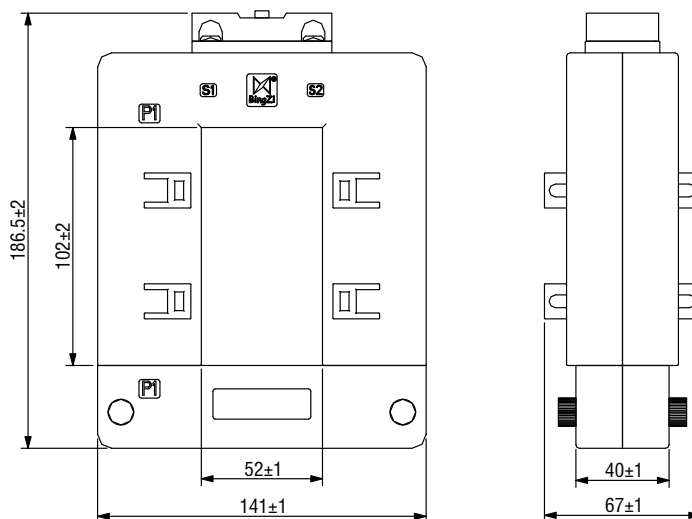

Figure 1
- ① Insulation resistance: $>1000\text{M}\Omega$ in normal condition;
- ② Insulation withstand voltages: 6KV $50\text{Hz}/1$ min;
- ③ Fire retardancy: In conformity with UL94-V0 .
- ① The outline drawing and installation dimension are shown in Figure 1